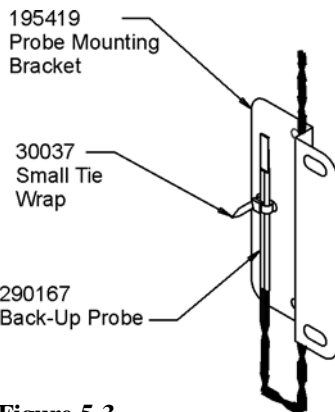

Figure 5-3
- As shown in Figure 5-3, thread the small tie wrap through the openings in the front of the bracket. Secure the probe on the back of the bracket with the tie wrap.